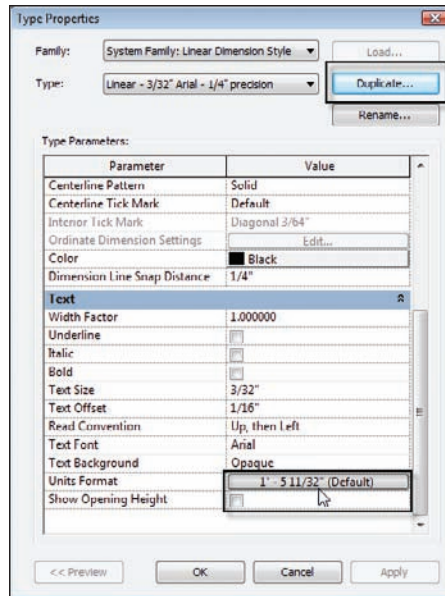

FIGURE 5.14 Select the button in the Text category to access the dimension's precision.
3. Click the Duplicate button, as shown in Figure 5.14.
5. Scroll down to the Text category. There, near the bottom, you will see a row for Units Format. Next to the Units Format row is a button that displays a sample increment. Click it (see Figure 5.14).